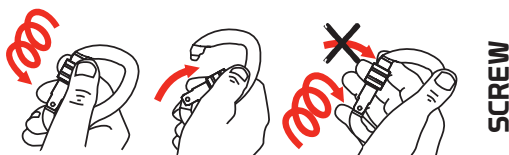

Fig.12
- the rope clamp (E) is clean and free to swing in blocking position,
- connectors are working properly (fig. 12 - 13), particularly check: